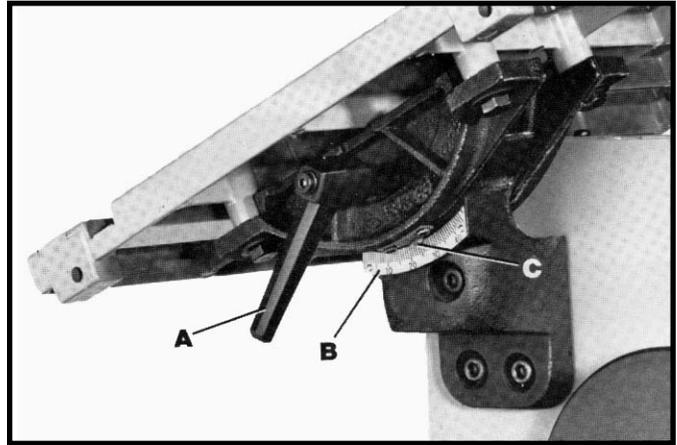

Fig. 25
1. The table can be tilted 45 degrees to the right and approximately 3 degrees to the left. To tilt the table, loosen lock handle (A) Fig. 25, tilt the table to the desired angle and tighten lock handle (A). **NOTE:** The table lock handle (A) can be repositioned by pulling out on the handle and repositioning it on the nut located underneath the hub of the handle. A scale (B) and pointer (C) is provided to indicate the degree of table tilt.